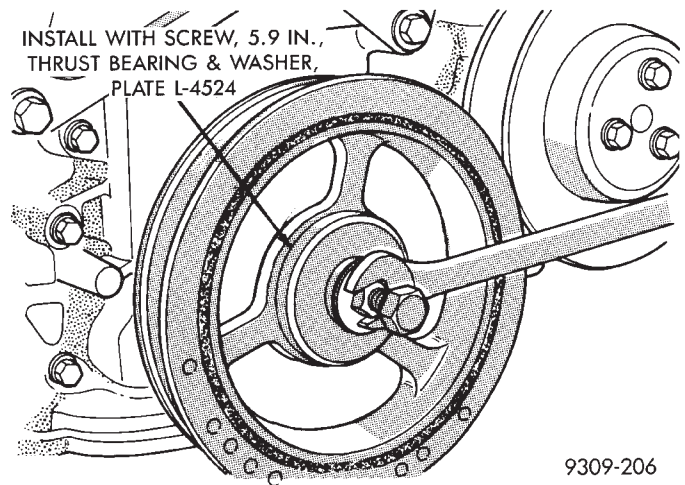

Fig. 8 Installing Crankshaft Pulley
(8) Install crankshaft pulley (Fig. 8).
- (2) Place seal into opening with seal spring towards the inside of engine. Install seal until flush with cover.
- (3) Install crankshaft pulley using plate L-4524. Thrust Bearing/washer and 5.9 inch screw (Fig. 8).
- (4) Install drive belt (Refer to Cooling System Group 7) for installation procedure.
- (5) Install inner splash shield and wheel.